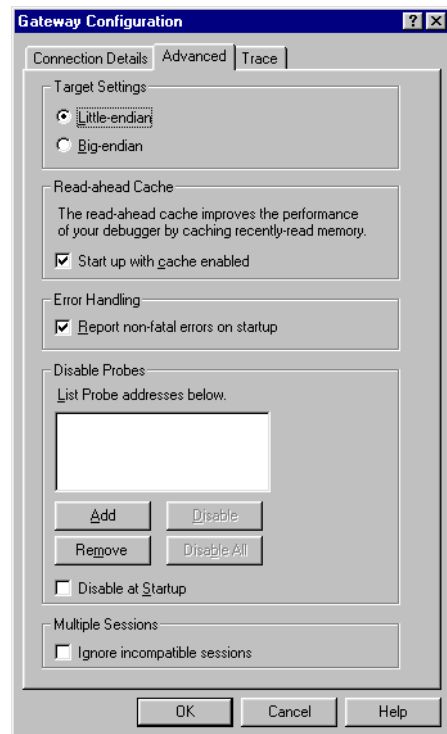

Figure B-8 Gateway Configuration dialog box, Advanced tab
7. Click on the **Advanced** tab (Figure B-8 on page B-12).